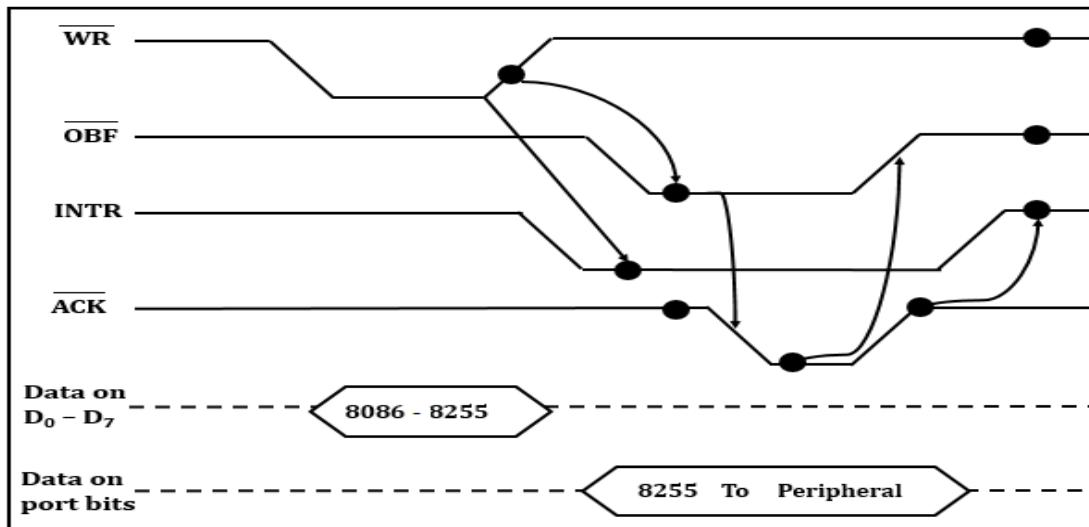

Figure 3.10: Timing Diagram of Mode 1 Output Mode.
- Figure 3.10 shows timing diagram of mode 1 output mode.